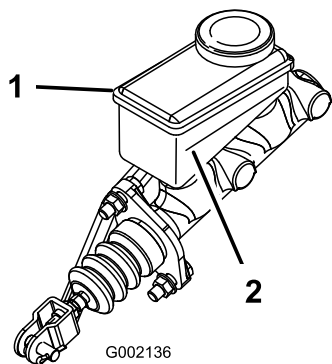

Figure 54
2. Rotate the secondary clutch (Figure 54) to see if it spins freely in the NEUTRAL position.
4. Rotate the secondary clutch (Figure 54) to see if it rotates the rear wheels.
6. Rotate the secondary clutch (Figure 54) to see if it rotates the rear wheels.
2. Look at the outline of the fluid level at the side of the reservoir (Figure 54).
- B. Add DOT 3 brake fluid to the reservoir until the fluid level is above the Minimum line (Figure 54).